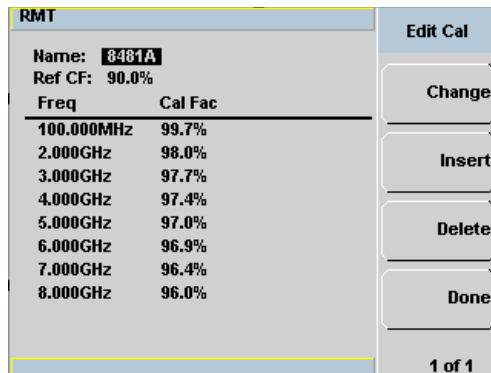

Figure 7-10 “Edit Cal” display
- 2 Choose the table you want to edit using the  and  keys. Press **Edit Table** to display the **Edit Cal** screen as shown in Figure 7-10.